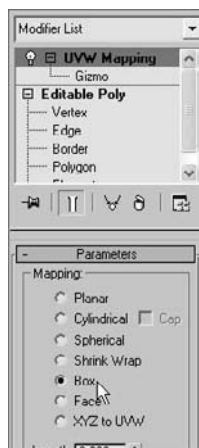

Figure 7.89
- Go to the UVW Mapping Modifier parameters, and select Box under Mapping, as shown in Figure 7.89.